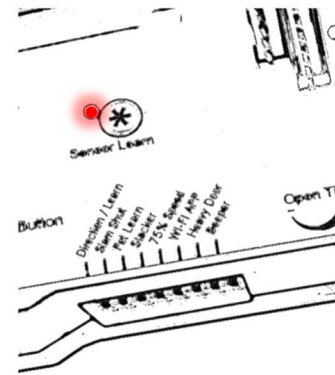

Figure 60: The Sensor Learn LED should turn red.
3. To pair a button to the Autoslide, press and release the “Sensor Learn” button on the Autoslide control panel. A red light should illuminate next to the button once released (Figure 60).